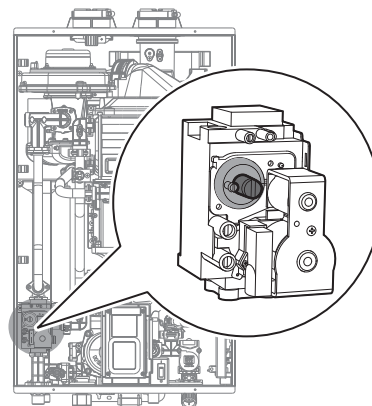

Figure 8. Set Screw Location
- Fully open several hot water fixtures and set the water heater to operate at 1-stage MIN mode (refer to page 45). Measure the CO₂ value at low fire. If the CO₂ value is not within 0.5% of the value listed in Table 2, the gas valve set screw will need to be adjusted. If adjustment is necessary, locate the set screw as shown in Figure 8. Using a $\frac{5}{32}$ in or 4 mm Allen wrench, turn the set screw no more than $\frac{1}{4}$ turn clockwise to raise or counterclockwise to lower the CO₂ value.